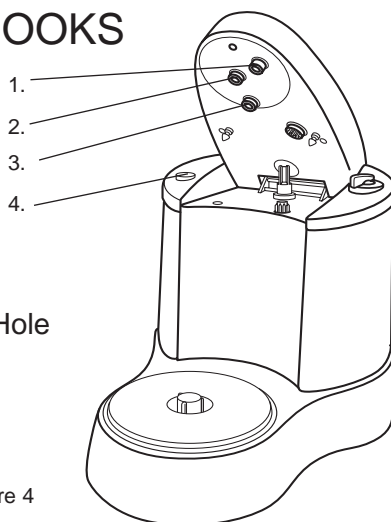

Figure 4
9. Head Release Button (see Figure 4)
2. Press Head Release Button.  The Mixer Head will pivot upwards automatically. (See Figure 4.)
4. Insert each Attachments' stem disk, one at a time, into the corresponding colored hole on underside of Motor Housing. (See Figure 4.)